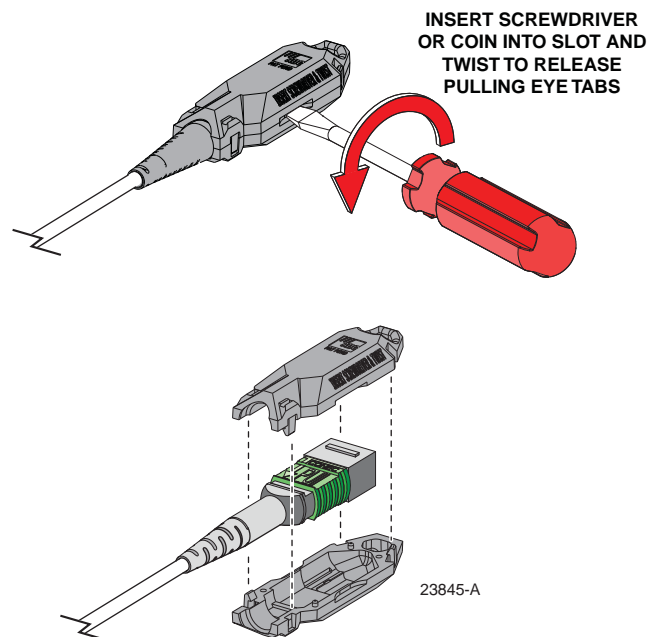

Figure 39. Removing a Pulling Eye
2. Remove the pulling eye from the end of the cable by inserting and twisting a screwdriver or coin as shown in Figure 39.